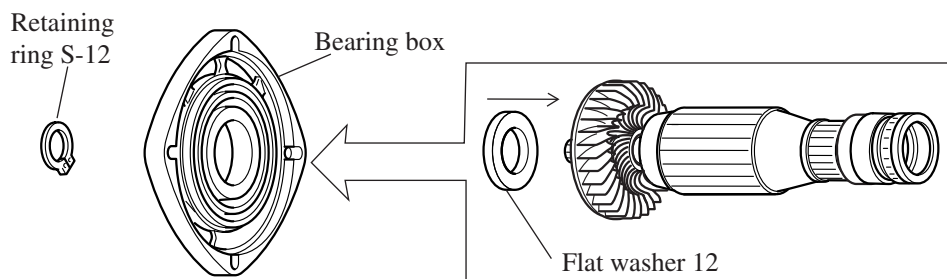

Fig.3C
- (3) Install flat washer 12 to armature shaft. And then, install the armature to bearing box, by pressing. See Fig.3C.
- (4) Install retaining ring S-12 to armature shaft. See Fig.3C.